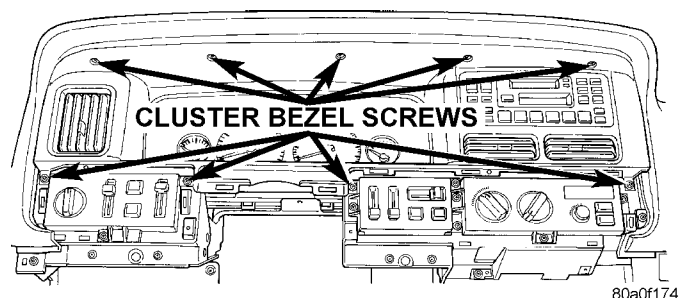

Fig. 2 Cluster Bezel Screws Remove/Install
(1) Disconnect and isolate the battery negative cable.
(2) Using a trim stick or another suitable wide flat-bladed tool, gently pry around the perimeter edges of both instrument panel switch pod bezels to release the snap clip retainers. Remove both bezels from the instrument panel.
(3) Remove the ten screws that secure the cluster bezel to the instrument panel (Fig. 2).